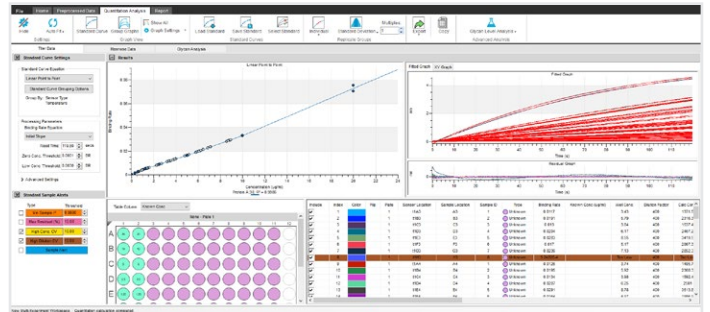

Figure 26: Selecting the Binding Rate Equation, Source for Standard Curve and Titer Concentration Data from ProA sensor.
9. Select the titer concentration data with desired dilution factors by unchecking the Include box next to the undesirable rows in the Table (Figure 26).